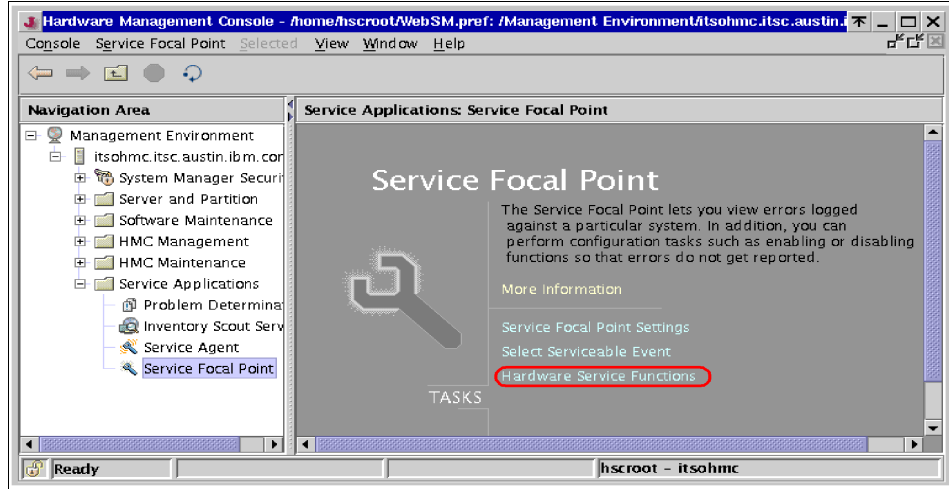

Figure 16-12 Service Focal Point: Hardware Service Functions
2. Select **Service Focal Point** in the Navigation Area. You will see the Service Focal Point task panel, as shown in Figure 16-12.